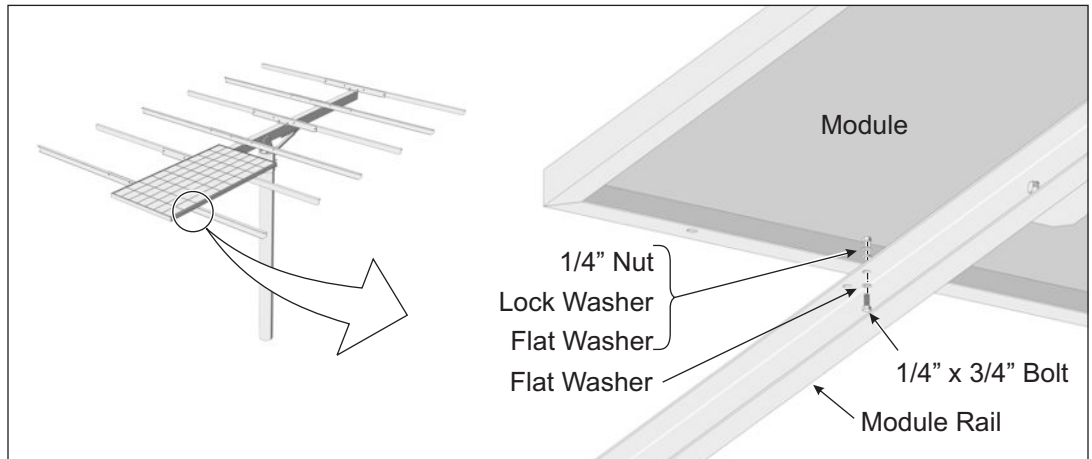

Figure 5-1: Installing PV Modules to Module Rails
- A. Place an interior PV Module on the Module Rails. Align the mounting holes and secure with 1/4" x 3/4" bolts and hardware; each Module has four attachment points. Finger-tighten for now. (See Figure 5-1)